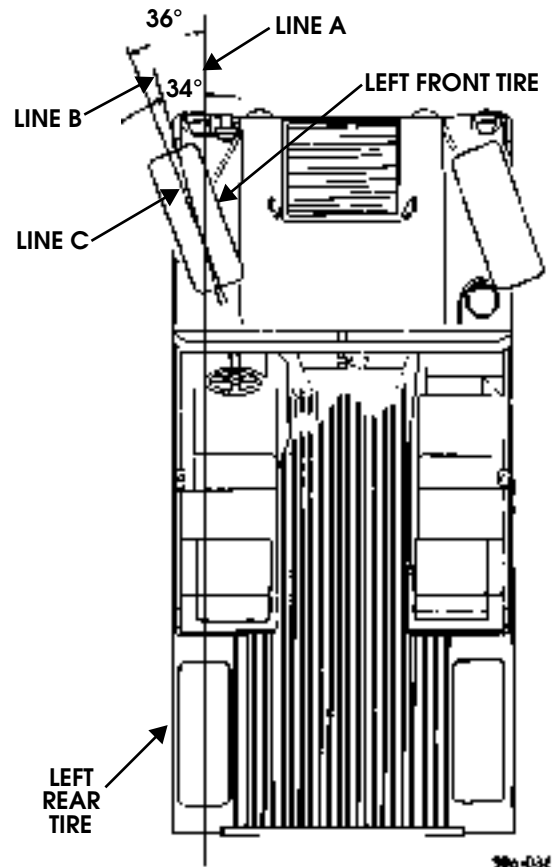

Figure 6-48: Checking Alignment
1. Apply thread-locking compound to bolt (Figure 6-48).
1. Draw a reference chalk line 30 feet long. Mark this line A (Figure 6-48).